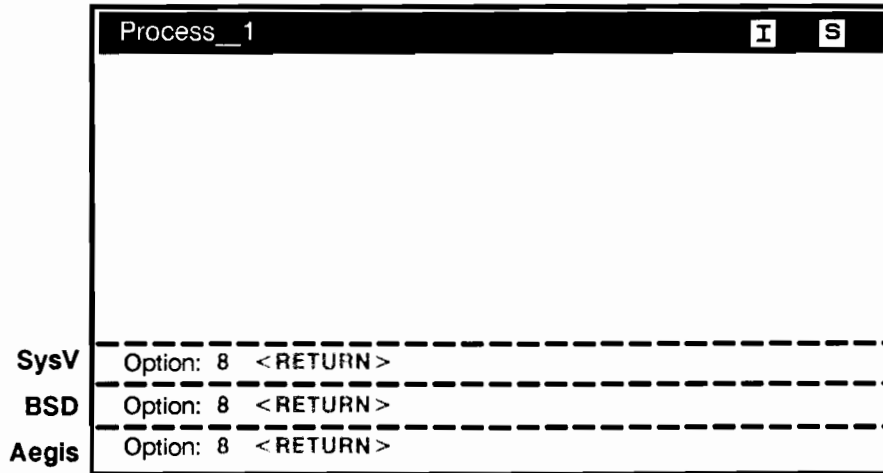

Figure 3-51. *invol* Prompt to Create the OS Paging File
16. The **invol** utility queries you for the option to perform. Enter the option as shown in Figure 3-51 to create the OS paging file.